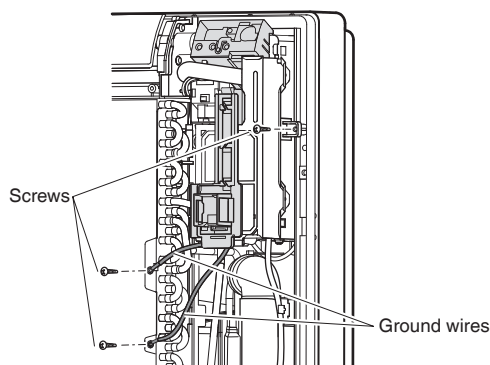

Fig. 4
- 5) After removing the ground wires (2 screws), remove the electrical wiring box (1 screw). (See Fig. 4)